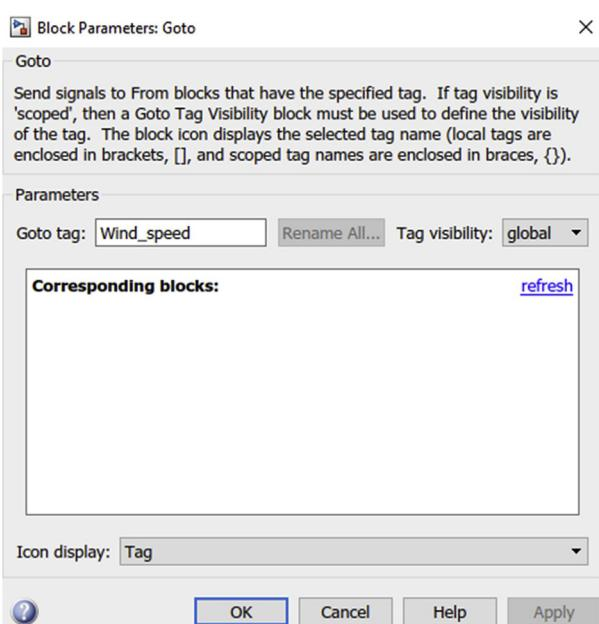

Figure 10.32 Wind_speed GoTo flag global Tag visibility.
13. Navigate to Chapter10/Motor_Control/Motor_Speed_Reference_Generator/Main_Controller. Place a **Goto** flag and connect it to the top signal of the two signals coming out of the **Demux** block. Rename it as **Wind_Speed**. Double click on the flag and change tag visibility to global as shown in Fig. 10.32. The following **Goto** flags shall also have global visibility. Then, place two **From** flags and connect it to the second and third **If action subsystems**.